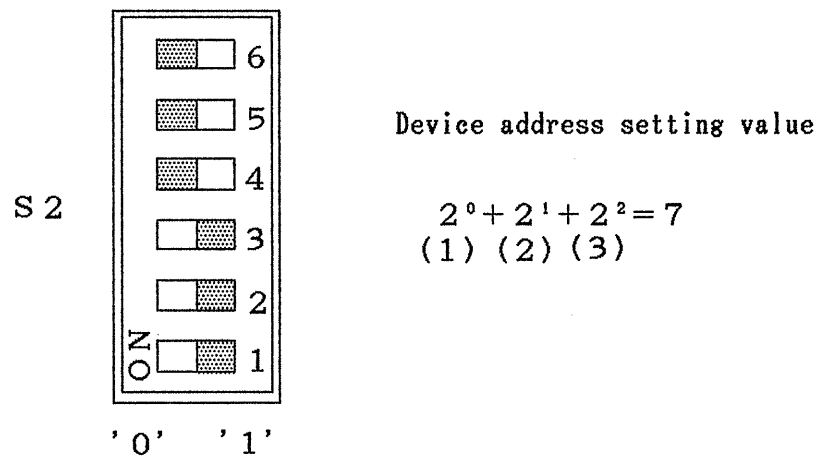

Figure 8-1
- c) Figure 8-1 shows how S2 is set for address "07".